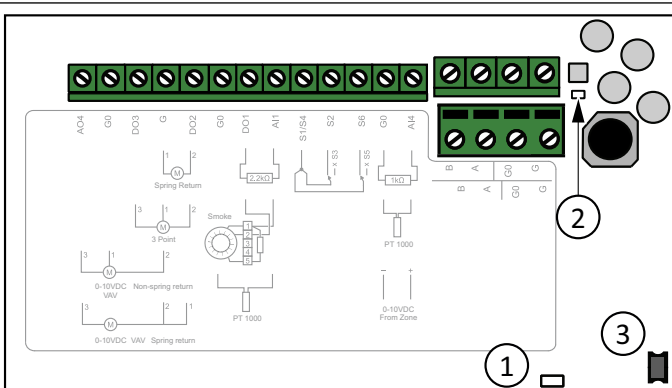

Figure 4 Inside the SCS-S2. 1= LED light for status, 2= LED light for communication, 3= Push-button
10. Press the push button on the damper units, see *Figure 4*. The LED lights up in magenta.
When identified, LED light 1 in the unit will start blinking, see *Figure 4*.
3. LED light 1 in the unit will start blinking for approx. five (5) seconds, see *Figure 4*.
2. Press the button in the unit, see *Figure 4*
It's possible to reset the device to factory settings via the button, see Figure 4.
1. Push and hold the button for 10 seconds. LED 1 (Figure 4) will turn red.